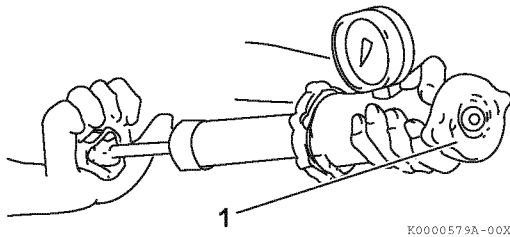

Figure 8-8
1. Install the radiator cap (**Figure 8-8, (1)**) on a cooling system tester.